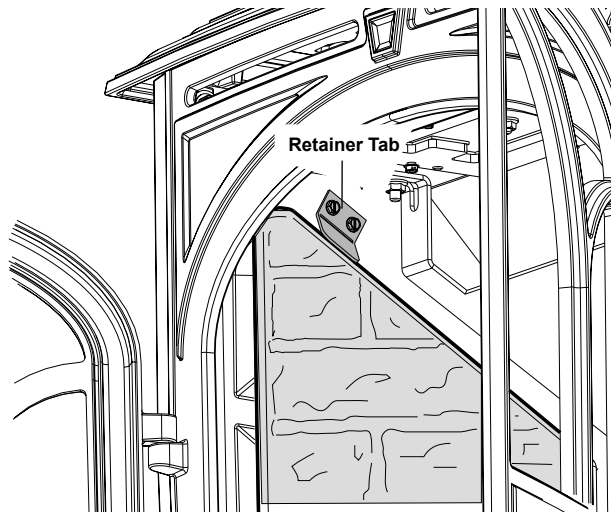

Figure 33. Secure the Side Panel with the tab.
2. Bend the retainer tab out slightly from each side of the firebox. See fig. 33. Set one side panel in place and bend the retainer tab down to secure the panel.